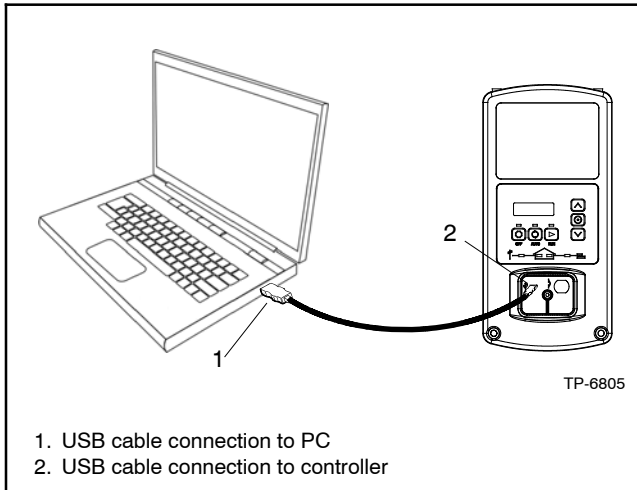

Figure 36 Controller Connection to a Laptop Computer through the USB Port (for setup using Kohler® SiteTech™ software; original controller shown)
2. Use a USB cable to connect the controller to a USB port on your PC. See Figure 36 for the connection.
- b. Kohler® SiteTech™ software and a personal (laptop) computer are required for setting up the DC2 controller. The RDC2 and VSC controllers can also be set up using SiteTech. The computer connects directly to the controller through the USB port. See Figure 36. Refer to TP-6701, SiteTech Software Operation Manual, for instructions if necessary.